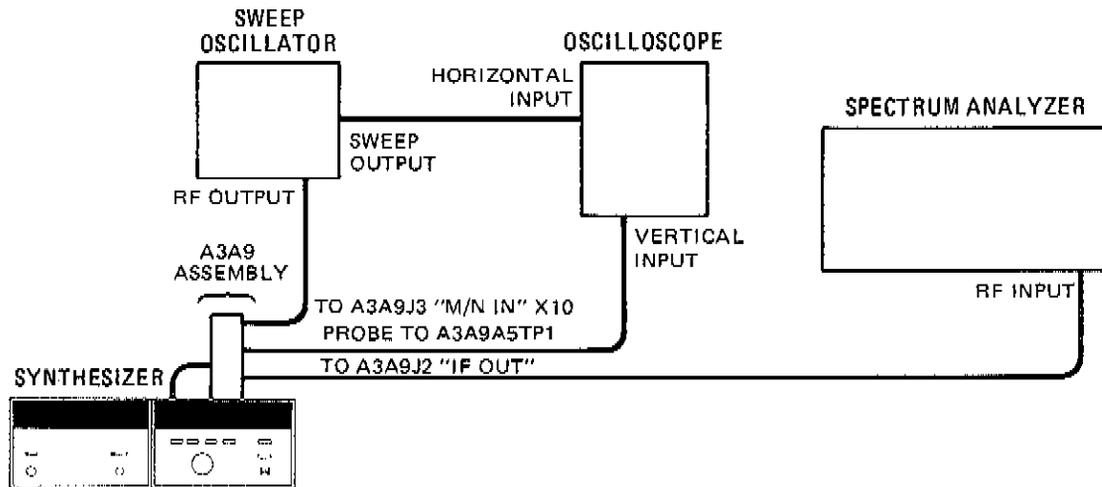

Figure 5-4. YTO Loop Sampler Adjustment Test Setup
6. Connect the equipment as shown in Figure 5-4. The sweep oscillator's RF output is connected to the M/N LOOP SIGNAL connector, A3A9J3, in place of the white-orange cable.